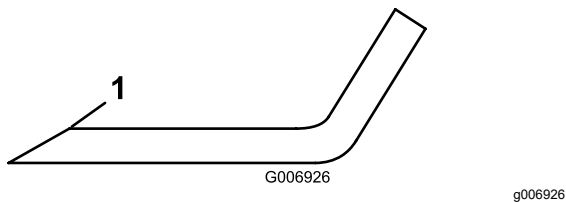

Figure 72
4. Inspect the cutting edges of all the blades, sharpen the cutting edges if they are dull or nicked, sharpen only the top of the cutting edge, and maintain the original cutting angle to ensure sharpness (Figure 72).